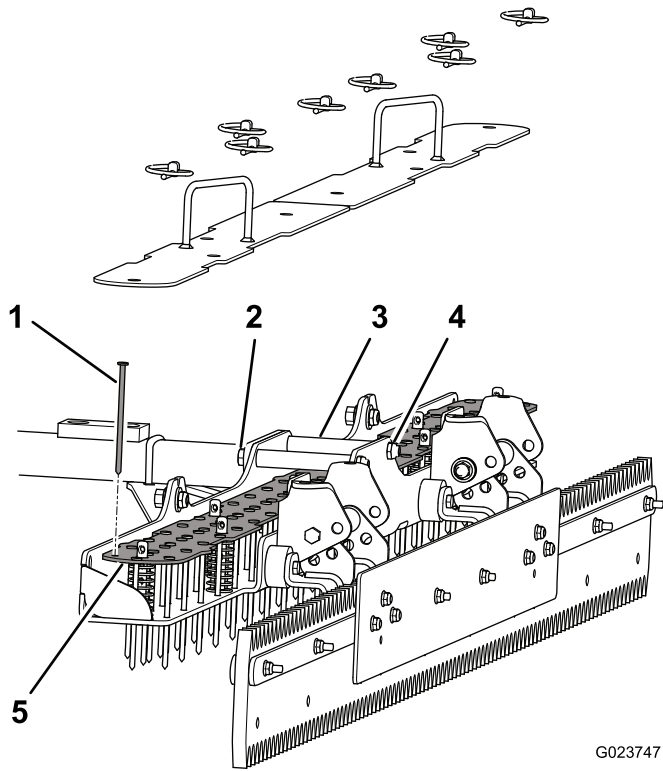

Figure 18
2. Remove the lynch pins from the 8 clevis pins securing the top plates to the nail plate and the bottom plate (Figure 18).